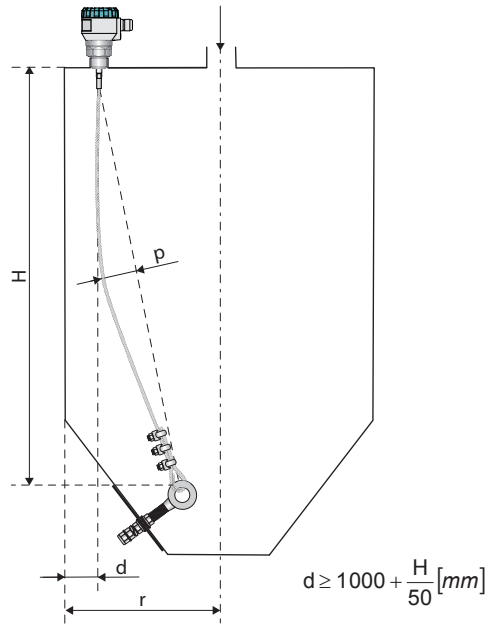

Fig. 21: Recommended installation of the level meter with anchoring on the same side of the silo
| same side of silo (Fig. 21) | $\geq 1000 + H/20$ |
- If the ratio of silo width to depth is determined by formula: $r \geq 1000 + H/20$ [mm], the rope can be anchored also on the same side of the silo, see Fig.21.